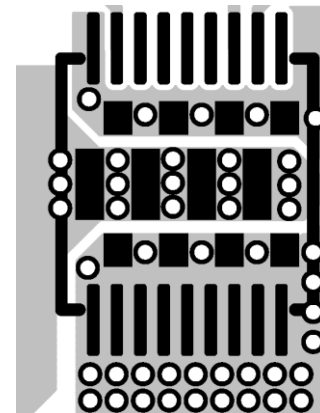

Figure 3—Via Placement Guideline
4) Do not place via on the pad or on the pin footprint. Doing so may cause soldering issue during the assembling process. Use Figure 3 as a via placement reference.